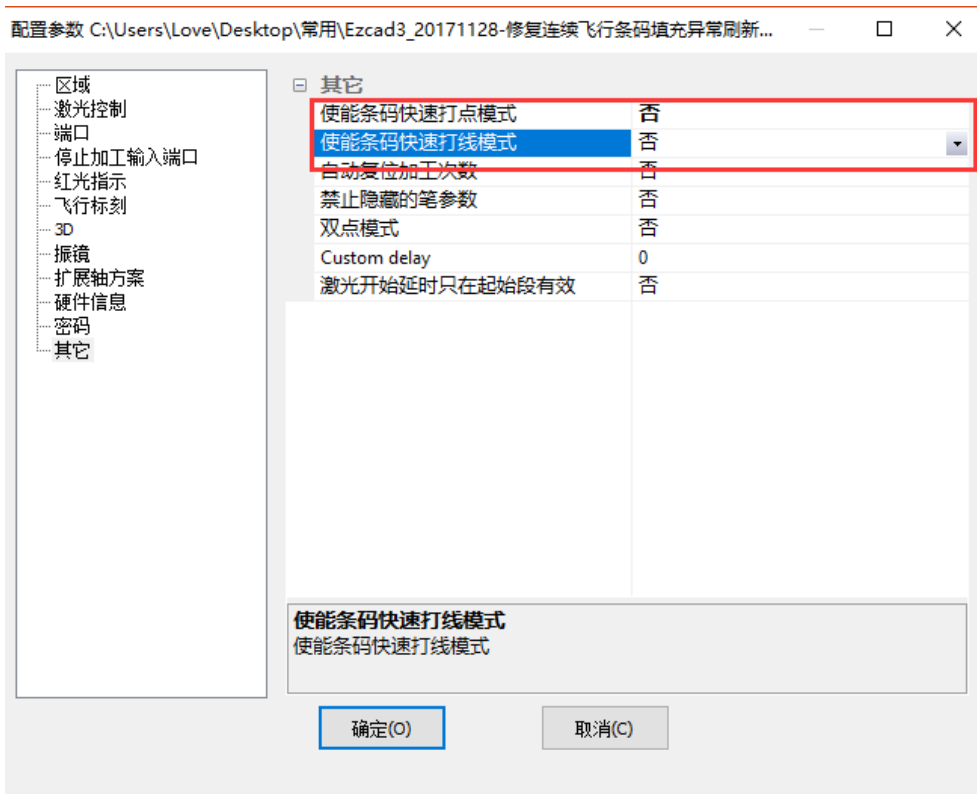

Figure 6.1 Enable fast dot/wire
1. fast dot, fast line function enable settings, as shown in Figure 6.1.